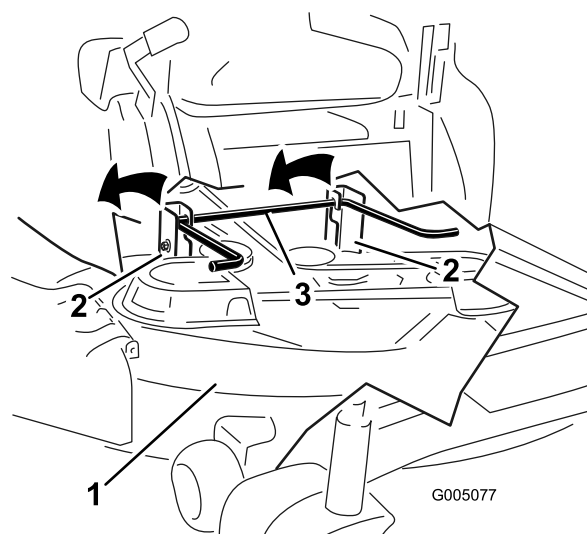

Figure 57
5. Using the mower deck handles, lift the mower deck and hanger brackets clear of the rear lift rod and lower the mower carefully to the ground (Figure 57).
5. Lift the rear of the mower deck and guide the hanger brackets over the rear lift rod (Figure 57).